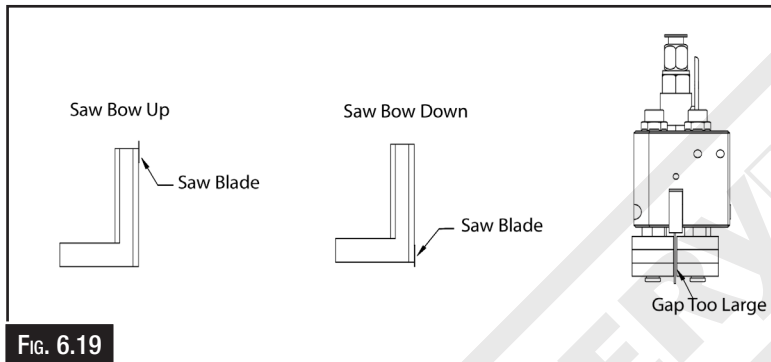

FIG. 6.19
2. Inspect the blade guides to see if there is a gap between the bearings and the blade (Fig. 6.19)